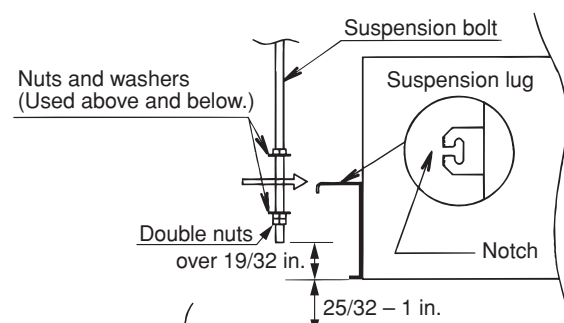

Fig. 3-36
- (3) Thread the 3 hexagonal nuts and 2 washers (field supply) onto each of the 4 suspension bolts as shown in Fig. 3-36. Use 1 nut and 1 washer for the upper side, and 2 nuts and 1 washer for the lower side, so that the unit will not fall off the suspension lugs.
- (4) Lift up the indoor unit and fit the suspension bolts into the notches in the suspension lugs.
- (5) Adjust so that the distance between the bottom of the indoor unit suspension lugs and the bottom of the ceiling panel is  $25/32 - 1$  in. Then tighten the nuts above and below each suspension lug. The full-size installation diagram can be used to help adjust the height of the indoor unit.